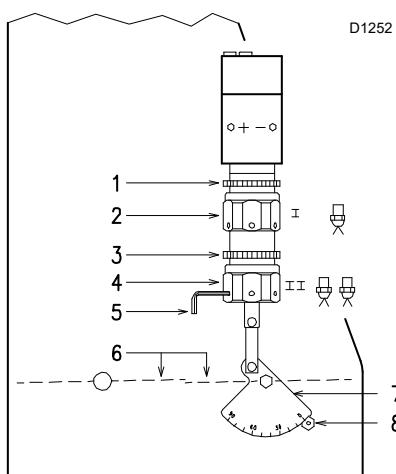

Fig. 19
Keep the burner operating at 1st stage by setting the switch 2)(Fig. 18) to the 1st stage position. Opening of the air gate valves 6)(Fig. 19) must be adjusted in proportion to the selected nozzle: the index 8)(Fig. 19) must be aligned with the notch indicated on the graduated sector 7)(Fig. 19). This adjustment is achieved by turning the hex element 2)(Fig. 19):
Set switch 2)(Fig. 18 pag. 17) to the 2nd stage position and adjust the air gate valve 6)(Fig. 19) by turning the hex element 4)(Fig. 19), after having loosened the ring nut 3)(Fig. 19).
in order to facilitate adjustment of hex elements 2) and 4)(Fig. 19), use a 3 mm Allen key 5)(Fig. 19).